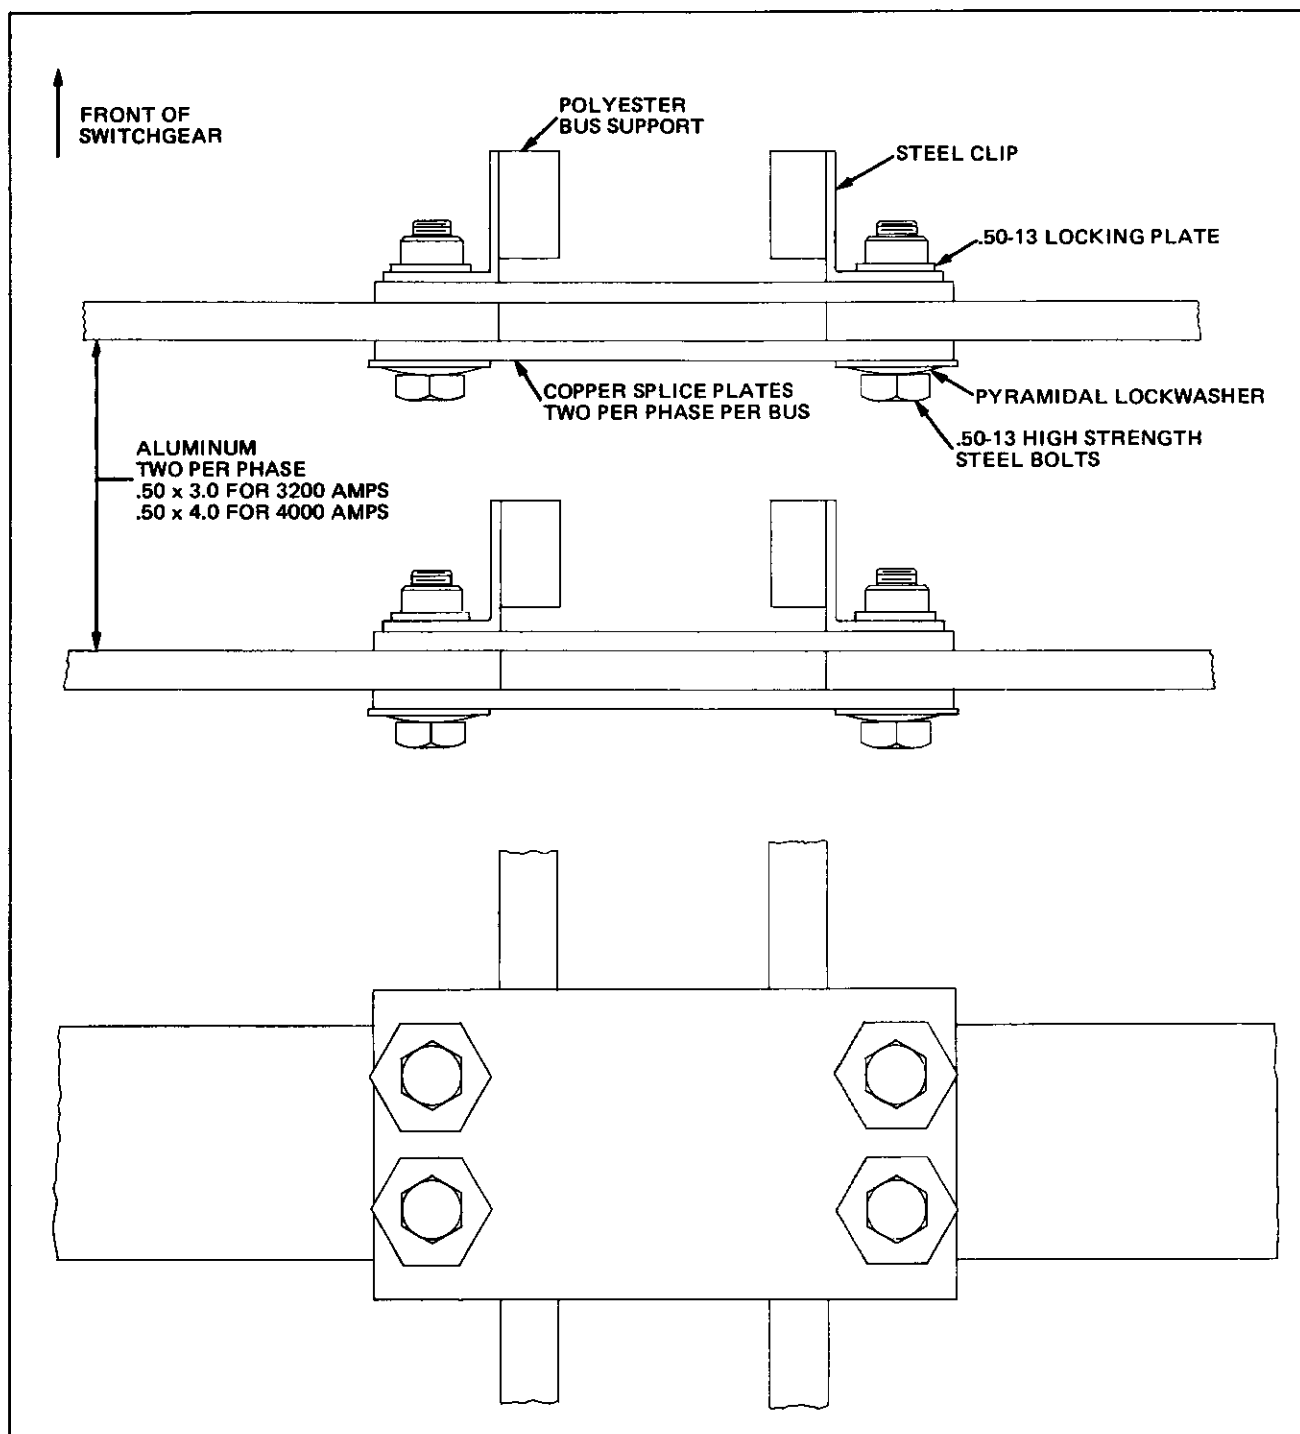

Fig. 38a *Field Assembly of Joints in 3200/4000 Amp. Aluminum Bus*
This rating employs two (2) .50 x 3.0 inch aluminum bars per phase. Each bar is joined by means of two (2) .25 x 4.0 inch copper splice plates at bolted connections. Each pair of splice plates uses front (4) .50-13 high strength steel bolts and "Pyramidal" lock washers. It will be easiest to join the bus bar that is nearest to the front of the switchgear first. See Fig. 38a, 38b and 38c.
This rating employs two (2) .50 x 4.0 inch aluminum bars per phase. Each bar is joined by means of two (2) .25 x 4.0 inch copper splice plates at bolted connections. Each pair of splice plates uses four (4) .50-13 high strength steel bolts and "Pyramidal" lock washers. It will be easiest to join the bus bar that is nearest to the front of the switchgear first. See Fig. 38a.